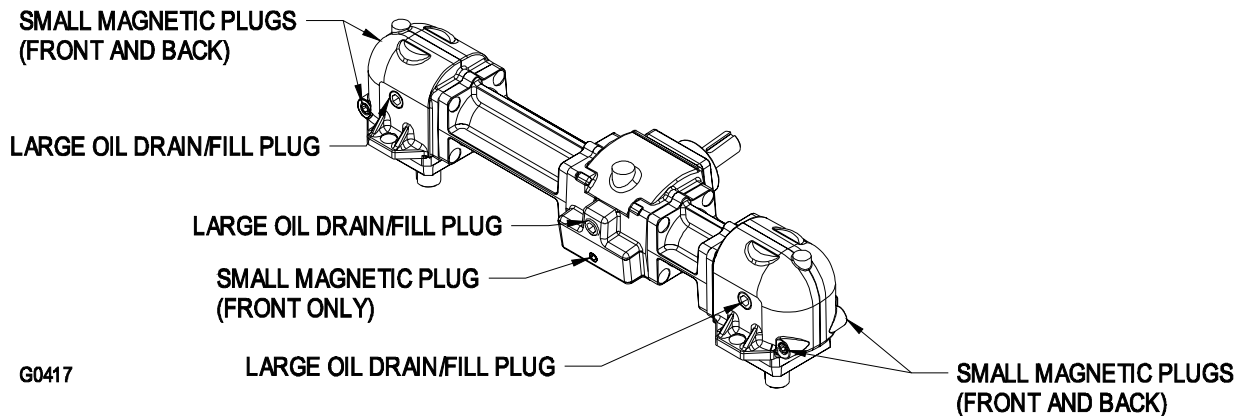

FIGURE 7
- d) Remove the large oil drain plug on the front of each of the 3 gearbox sections and drain oil. See Figure 7.
- e) Remove small magnetic plugs and wipe away any material accumulated on the plugs. See Figure 7.